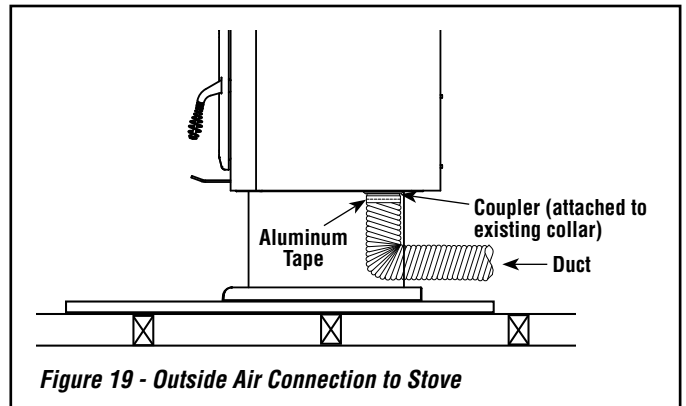

Figure 19 - Outside Air Connection to Stove
- Attach the duct to the coupler on stove (*see Figure 19*). Using the aluminum tape provided, wrap the tape around the joint between the flexible duct and the air inlet.